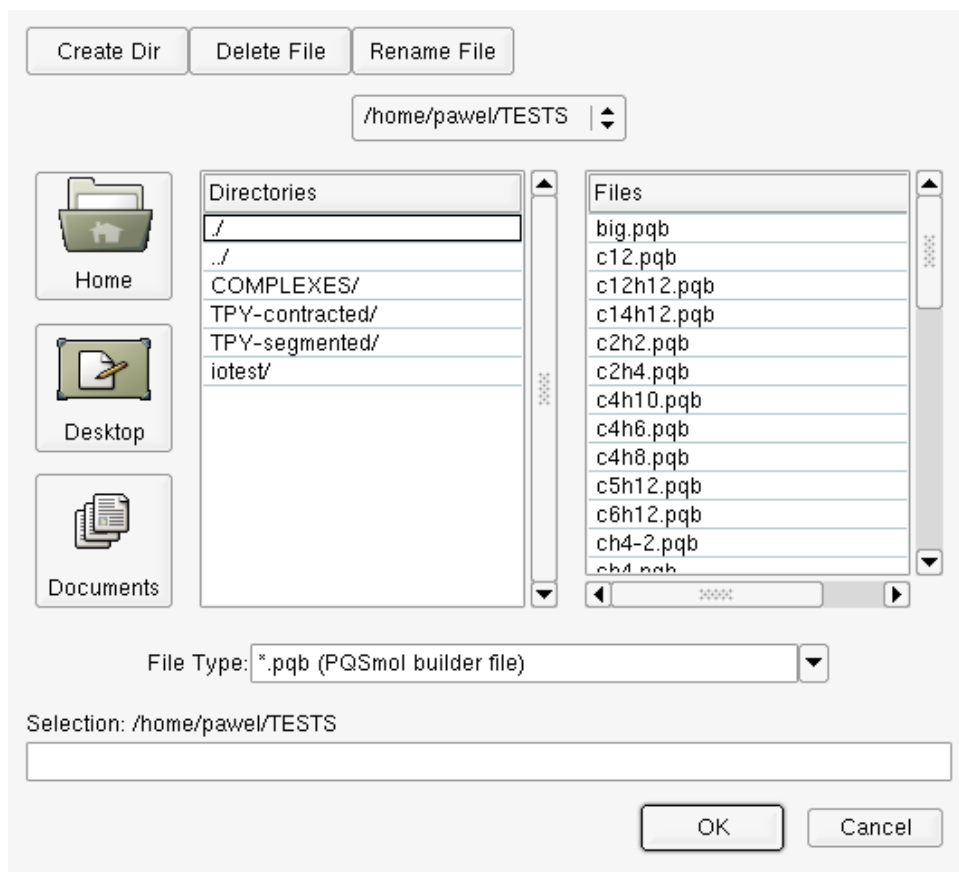

Figure 2.23: File Open dialog
- **Open Existing** opens an existing build file. The File Open dialog, Figure 2.23, lets you browse directories for a specific file. The file list is filtered so that only the pqsmol build files, with the `.pqb` extension, are displayed. You can change the current browse directory by selecting entries in the *Directories* list on the left and a specific file can be selected from the **Files** list on the right side.